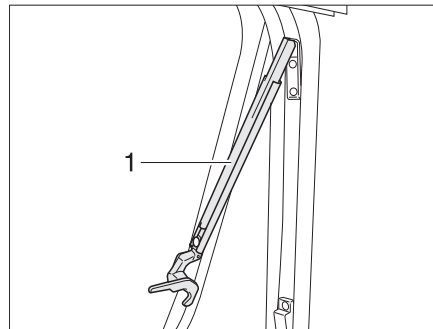

Fig. 71 Hinged window with automatic hinges, open
- Open the hinged window to the desired latched position. The automatic hinge (Fig. 71,1) locks in place automatically.